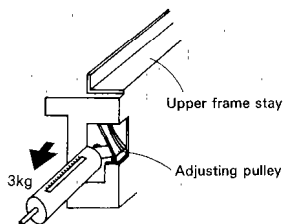

Figure 4-9
- 2) Hook a spring gauge (CK-0054) on the pulley stop plate as shown in Figure 4-9, pull it horizontally with a force of 3 kg, and tighten screw A in Figure 4-7.